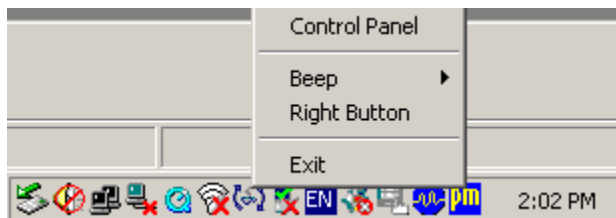

Figure 5-27: PenMount Monitor Popup Menu
Step 3: Click the icon. A pop up menu appears. See **Figure 5-27**.
Step 4: Click Control Panel in the pop up menu shown in **Figure 5-27**.